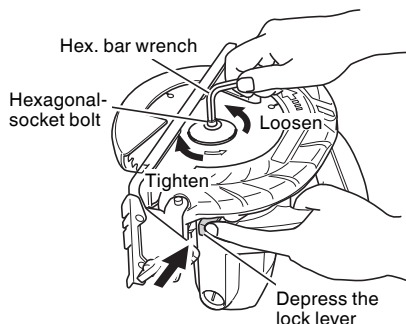

Fig. 7
- (1) Set the cutting volume at maximum, and place the Circular Saw as shown in Fig. 7.
- (2) Depress the lock lever, lock the spindle, and remove the hexagonal-socket bolt with the hex. bar wrench.
- (3) While holding the lower guard lever to keep the lower guard fully retracted into the saw cover, remove the saw blade.